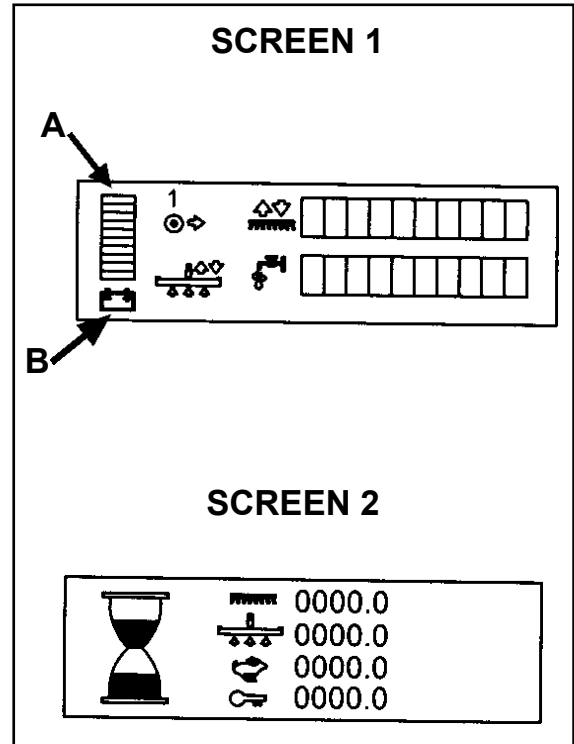

Figure 21
**How to Read the Battery Meter (see figure 21, A)**
The LCD display has three screens. Two of them can be accessed at any time the key is on. The first screen shows the machine status and the second screen shows the four hour meters (figure 21).